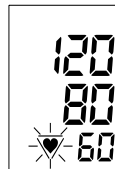

Figure 4
- The determined values of systole, diastole and pulse are shown in the display (Figure 4).